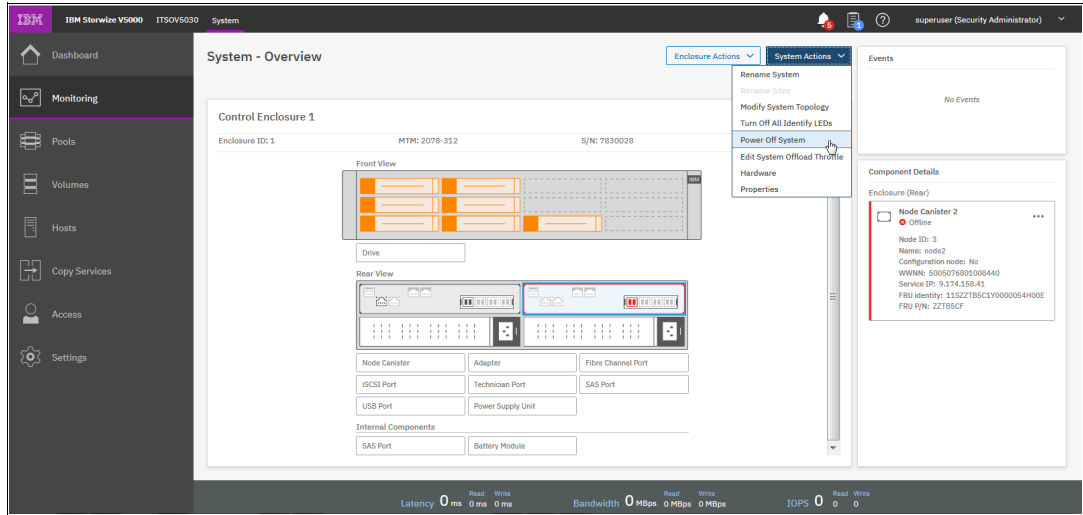

Figure 12-136 Powering off the system
1. Browse to **Monitoring** → **System**, click **Actions** → **Power Off System**, as shown in Figure 12-136 on page 723.